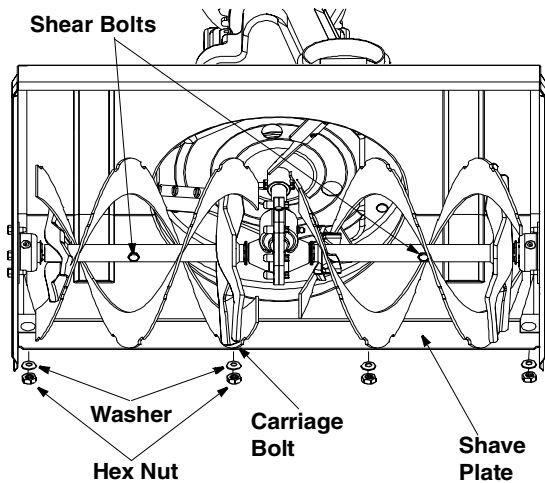

Figure 27
The augers are secured to the spiral shaft with two shear bolts and hex lock nuts. See Figure 27 . If you hit a foreign object or ice jam, the snow thrower is designed so that the bolts will shear. This type of nut is used where vibration occurs.
- Remove the four carriage bolts, belleville washers and hex nuts which attach skid shoes to the snow thrower on two sides. See Figure 27 .
- To remove shave plate, remove carriage bolts, belleville washers and hex nuts which attach shave plate to the snow thrower housing. For location of shave plate, see Figure 27 .